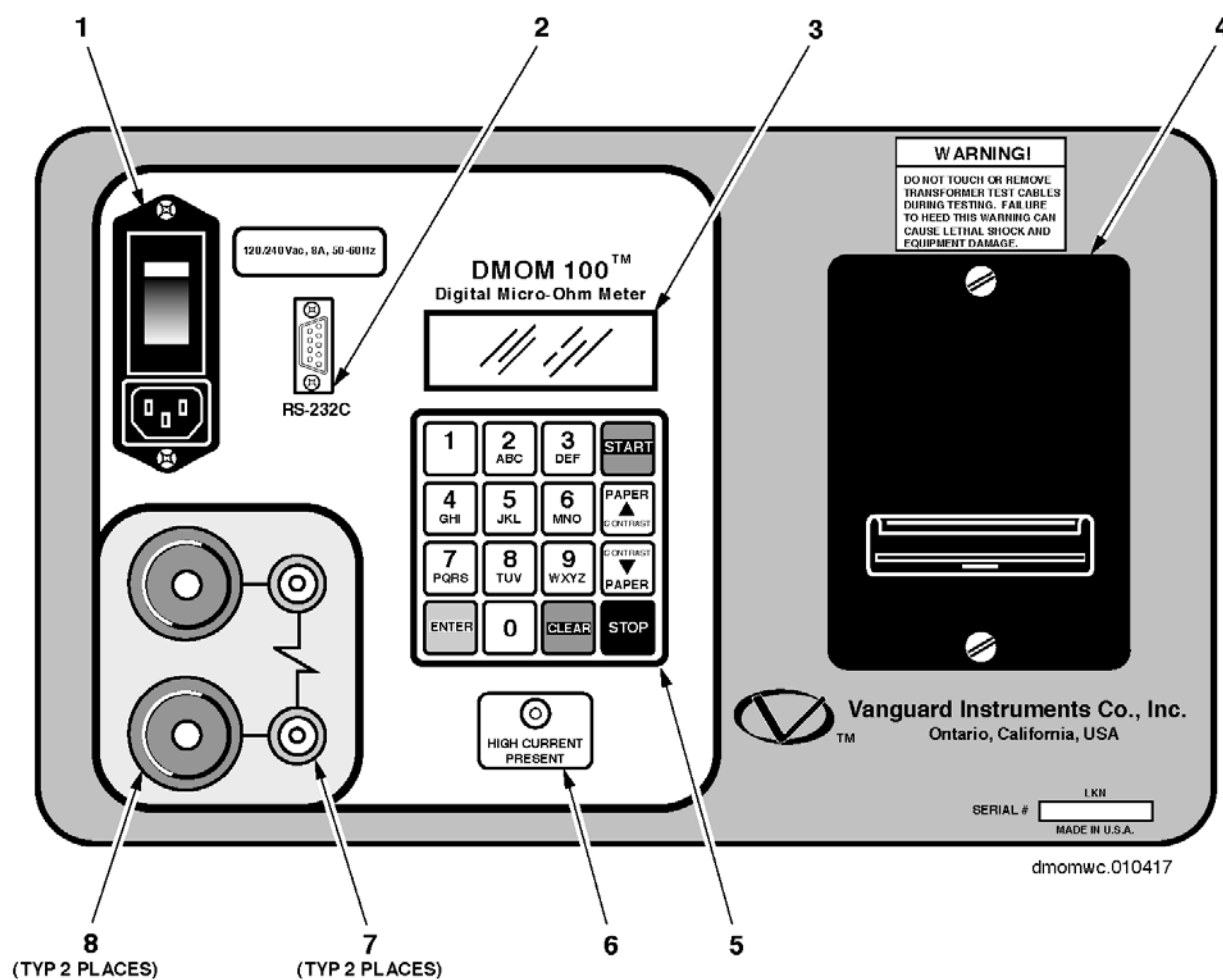

Figure 1.0 DMOM-100™ Control Panel (Controls and Indicators)
3.0 CONTROLS AND INDICATORS (See Figure 1.0 and refer to Table 2.0).
The DMOM-100™ controls and indicators are shown in a panel illustration (see Figure 1.0). Pointing leader lines reference each item in the figure with an index number. Each index number is cross-referenced to a functional description in Table 2.0, which describes the purpose of each item on the
Unless otherwise prompted by the display, keyed-in data is loaded by pressing the ENTER key (which also changes the display to go to the next screen). When using the alpha/numeric keys (like telephone dial-in pushbuttons; see item 5 of Figure 1.0) to specify data characters: Press the key once to set the number marked on the key. Press the key a second time to set the first letter marked on the key. Press the key a third time to select the second letter marked on the key. Press the key a fourth time to select the third letter marked on the key. Additional key presses will repeat the selection cycle (e.g., 2, A, B, C, 2 . . .). When the character of choice is selected, press the ^ key to advance to next character space; press the v key to back-space. Press CLEAR to delete a selected character (cursor must be on character to be deleted). Again, press the “ENTER” key to load all character selections.